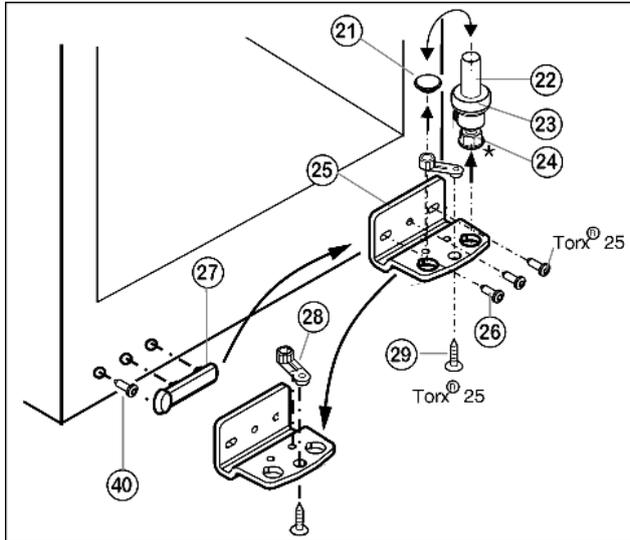

Fig. 5
- ▶ Lift out the bearing pin *Fig. 5 (22)* together with washer *Fig. 5 (23)* and adjustable-height foot* *Fig. 5 (24)*.
- ▶ Lift off the stopper *Fig. 5 (21)*.
- ▶ Unscrew *Fig. 5 (26)* the turn hinge *Fig. 5 (25)*.
- ▶ Unscrew *Fig. 5 (29)* the bearing element *Fig. 5 (28)*, transfer it to the opposite location hole of the turn hinge and screw it firmly into place.
- ▶ Carefully lift off the cover on the handle side *Fig. 5 (27)*, undo the screw () and transfer both to the opposite side.
- ▶ Screw the turn hinge *Fig. 5 (25)* firmly into place on the new hinge side, possibly using a cordless screwdriver (**with 4 Nm**).
- ▶ Re-insert the stopper *Fig. 5 (21)* into the other hole.
- ▶ Re-insert the bearing pin *Fig. 5 (22)* together with the washer and adjustable-height foot*. In so doing, pay attention that the locating lug points backwards
- ▶ Place the door from above onto the lower bearing pin *Fig. 5 (22)*.
- ▶ Align the door to the appliance housing by way of the two oblong holes in the bottom turn hinge *Fig. 5 (25)*. To do so, unscrew the middle screw.